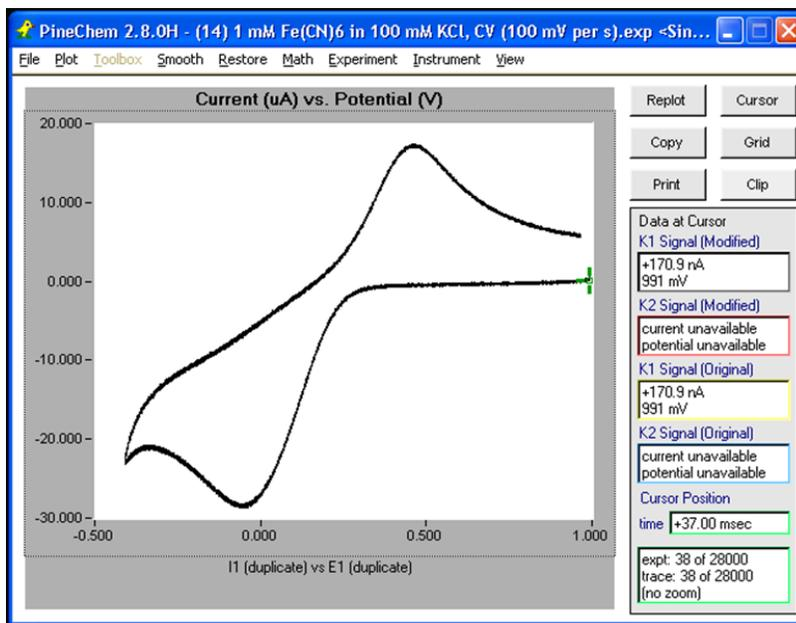

Figure 7: Cyclic Voltammogram (CV) obtained in PineChem of a Potassium Ferricyanide Solution
- b) Verify that the resulting CVs are similar to those shown in Figure 7.